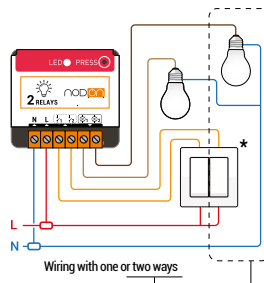

Figure 1
- 3 Install the ON/OFF Lighting Relay Switch according to diagram figure 1.